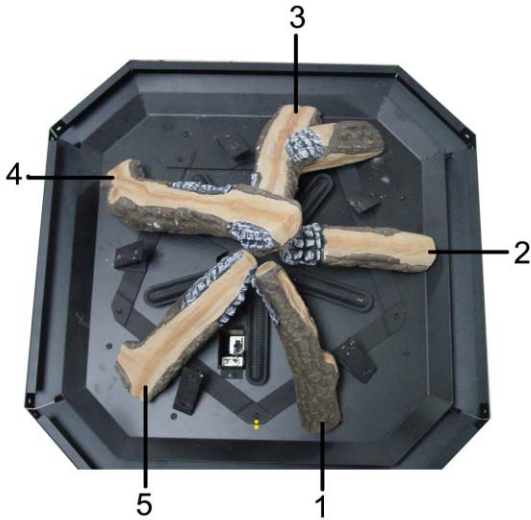

Figure 5-Installing log 1.2.3.4.5
5. Install logs 1,2,3,4,5 by inserting each log screw into holes of corresponding grate branch . Make sure each log is placed in proper sequence.(See FIG 5.)